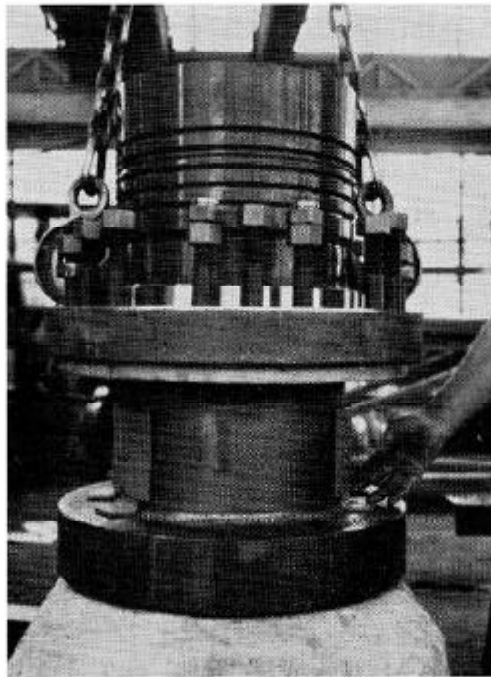

FIG. 31
2. Lift the thrust bearing retainer and place the two extracting tools in position as shown on Fig. 31.